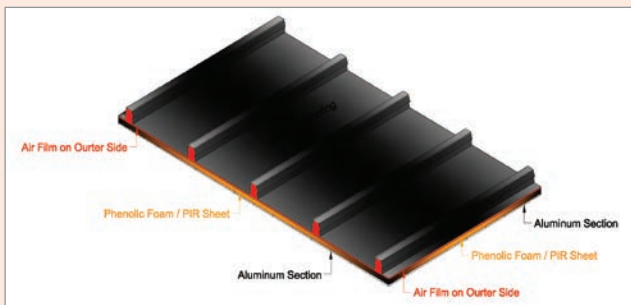

Figure 2: Underdeck insulation with phenolic foam / PIR sheet for metallic roofing
- $t_2 = 2.36\text{"}$  (60mm) phenolic foam insulation material (Figure 2)